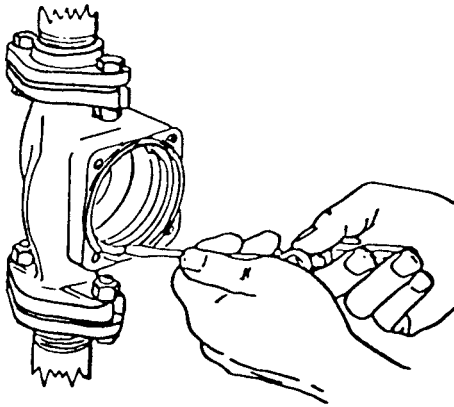

FIG 4. Cleaning off gasket area
- 6 Remove and discard old gasket. Clean off area in pump body (FIG. 4).